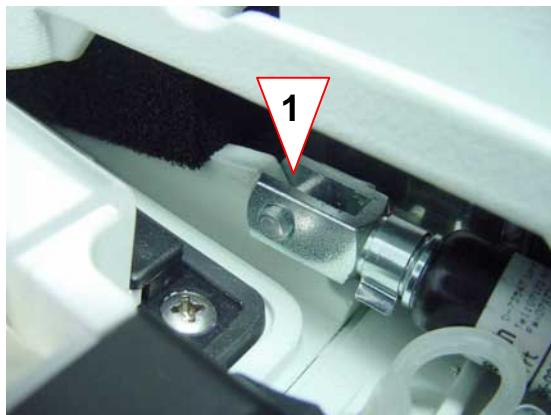

Fig. 3-11 Gas spring connection
10. Pull the measuring chamber cover to the front, by doing this also the connection to the gas spring to the housing is disconnected (see Fig. 3-11, 1).